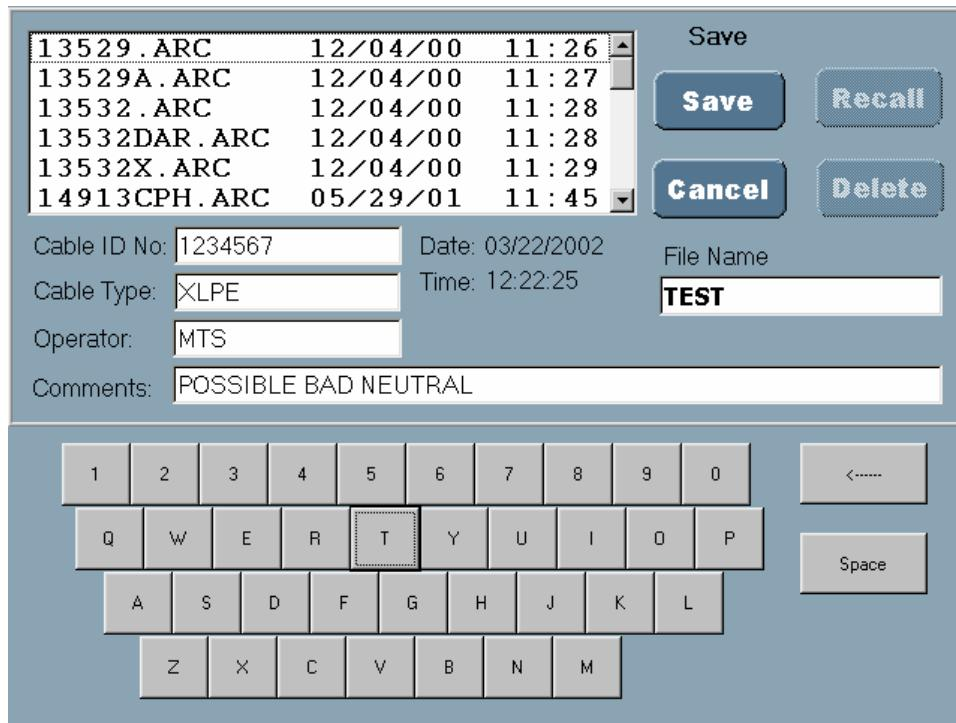
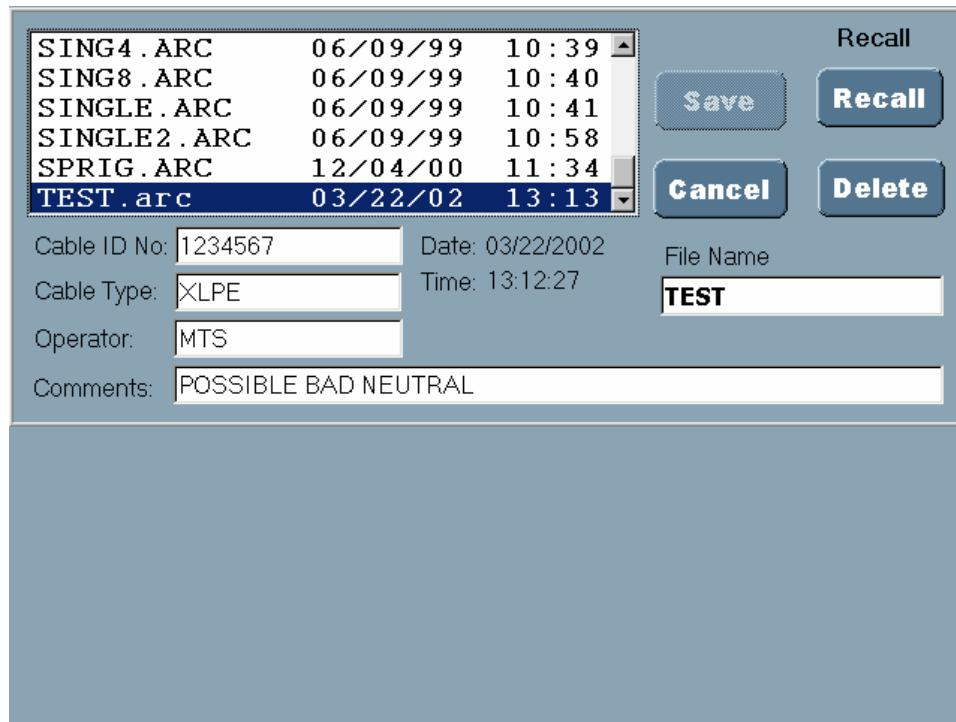

Figure 6-10 Save screen
Figure 6-11 Recall screen
- To select Save or Recall screens. Press **Save** to go to the Save screen (Figure 6-10). Press **Recall** to go to the Recall screen (Figure 6-11).
Use the Save screen (Figure 6-10) to save traces and data to memory.
Use the Recall screen (Figure 6-11) to recall saved traces and display them on the screen. High- and low-voltage traces, velocity, delay time, pulse width, gain, mode, date, and time will be recalled.
Display the Delete screen by pressing **Recall** on the Options screen (Figure 6-7) and then **Delete** on the Recall screen (Figure 6-11).